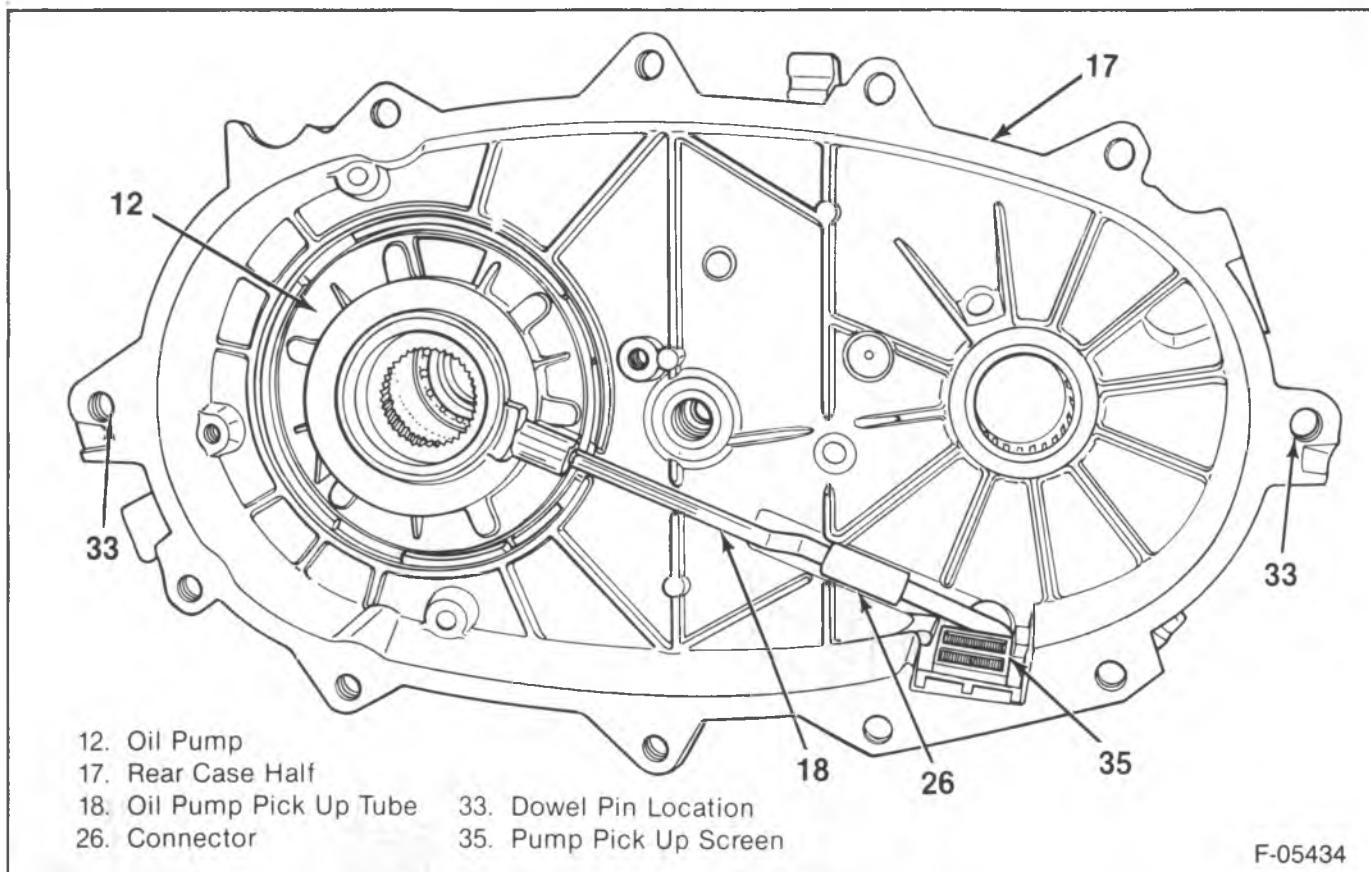

Figure 17—Oil Pump, Pickup, Screen, Doweled Case Holes
- 9. Front output shaft (21) to the front case half (45).
- 10. Driven sprocket (22) into the chain (58).
- 11. Drive sprocket (20) and mainshaft (19) into the chain (58).
- Mainshaft (19), drive sprocket (20), driven sprocket (22) and chain (58) are installed as a unit.
- 12. Retainer (snap ring) (23) onto the front output.
- 13. Fork shift spring (52) onto the mode shift rail (48).
- 14. Oil pump pick up tube (18), oil tube connector (26) and pump pick up screen (35) into the rear case half (17) (figure 17).
- 15. Oil tube O-ring (14) onto the oil pump pick up tube (18).
18. Case bolts (3) into case halves.
- The two longer case bolts and washers to into doweled case holes (33) (figure 17).